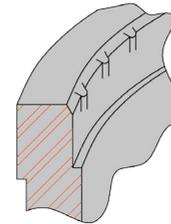

Fig. 2
1. Damaged bore or bore chamfer (Fig. 2)	Check bore and chamfer condition